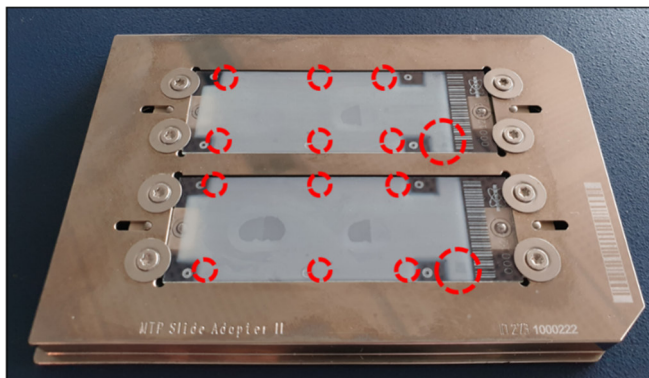

Figure 4. Areas that should be kept free of tissue sample.
- The areas circled in red in Figure 4 are used for Detector Check, Target Height Profile Generation and Laser Focus Adjustment and should be kept free of tissue sample.